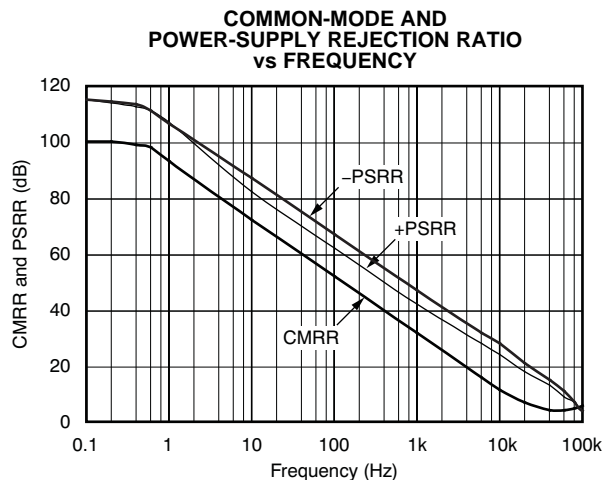

Figure 3.
(1) See Typical Characteristic graph, *Common-Mode Rejection Ratio vs Frequency* (Figure 3).